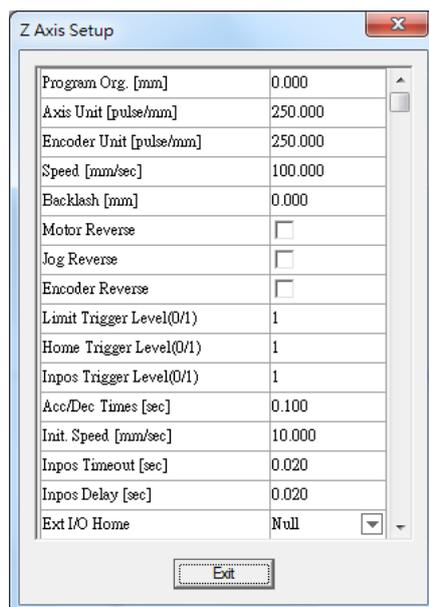

Fig. 1.7.34
6. Click "SETUP..." and do more detail settings, see Fig.1.7.34.